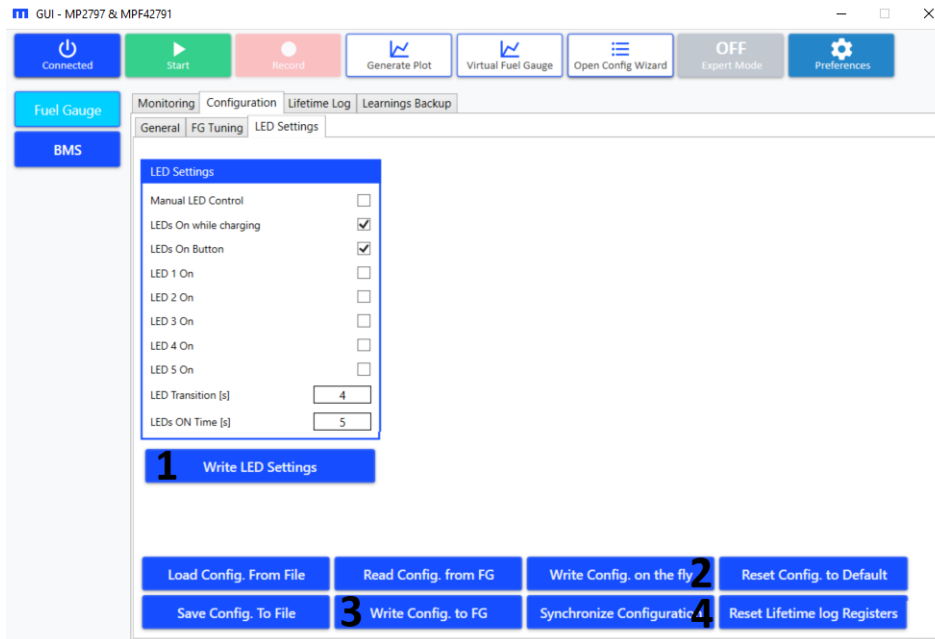

Figure 58: LED Settings
3. Set the LED parameters and write the values to the MPF4279x (see Figure 58 on page 45).
- a. Click “Write LED Settings” (denoted as “1” in Figure 58 on page 45). Write the LED settings to the volatile memory of the MPF4279x. Note that these changes only last until they are overwritten, or a hardware reset occurs. This function can be used while reading is active.
- b. Click “Write Config. on the fly” (denoted as “2” in Figure 58 on page 45). This writes both the fuel gauge settings and the LED settings into the volatile memory of the MPF4279x. Note that these changes only last until they are overwritten or a hardware reset occurs. This function can be used while reading is active.
Note that the changes written to the volatile memory can be stored to the NVM to be used as default values after the device experiences a hard reset (via a power reset or toggling the RST pin). To save the changes, click “Synchronize Configuration” (denoted as “4” in Figure 58 on page 45).
- c. Click “Write Config. to Fuel Gauge” (denoted as “3” in Figure 58 on page 45). The settings under this tab are stored in both the volatile and the NVM of the MPF4279x, and are used as default values after the device experiences a hardware reset (see Section 3.7 on page 37 for more details).